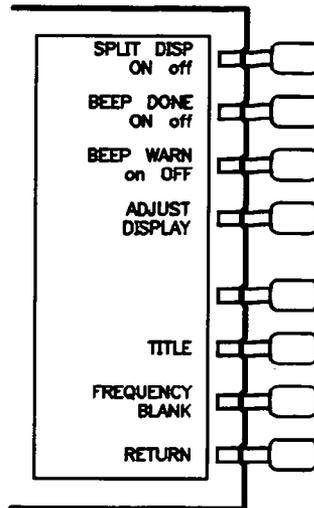

Figure 5–26. Display More Menu
**SPLIT DISP on OFF** (SPLDON, SPLDOFF) toggles between a full–screen single graticule display of one or both channels, and a split display with two half–screen graticules one above the other. Both displays are illustrated in Figure 5–25. The split display can be used in conjunction with **DUAL CHAN ON** in the display menu to show the measured data of each channel simultaneously on separate graticules. In addition, the stimulus functions of the two channels can be controlled independently using **COUPLED CH ON** in the stimulus menu. The markers can also be controlled independently for each channel using **MARKERS:UNCOUPLED** in the marker mode menu.